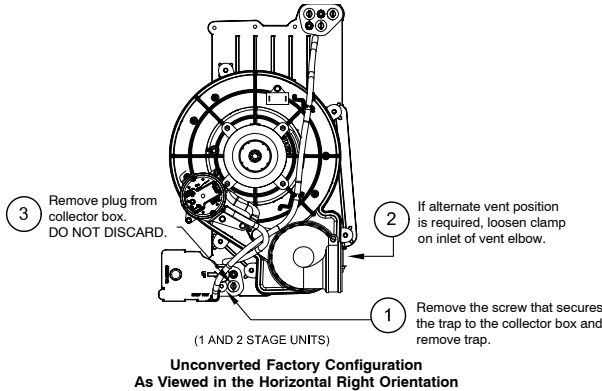
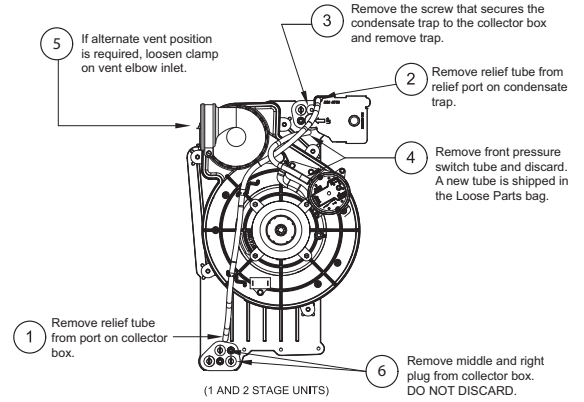

Fig. 10 – Horizontal Right Trap Configuration
Fig. 11 – Horizontal Left Configuration
When the furnace is installed in the horizontal right position, the condensate trap will be initially located at the bottom of the collector box, as received from the factory. See the top image in Fig. 10. When the furnace is installed in the horizontal left position, the condensate trap will be initially located at the top of the collector box, as received from the factory. See the top image in Fig. 11. In both cases the trap must be repositioned on the collector box for proper condensate drainage. See the bottom images in Fig. 10 and Fig. 11.
- Fig. 10 shows the condensate trap and tubing before and after relocation in the horizontal right position.
- Fig. 11 shows the condensate trap and tubing before and after relocation in the horizontal left position.